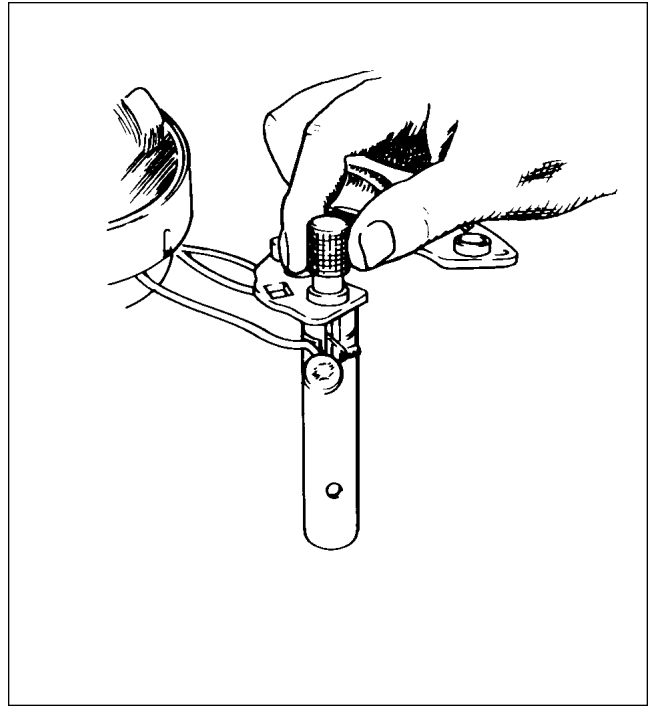

Figure 24-4. Removal of Rectifier
- d. Remove nuts, lock washers, flat washers, and insulators from output and auxiliary terminal studs. (Note carefully the correct assembly of insulator washers and bushings.) Using special tools shown in Figure 24-4, support end head and press out three negative rectifiers. End head can now be separated from stator assembly.